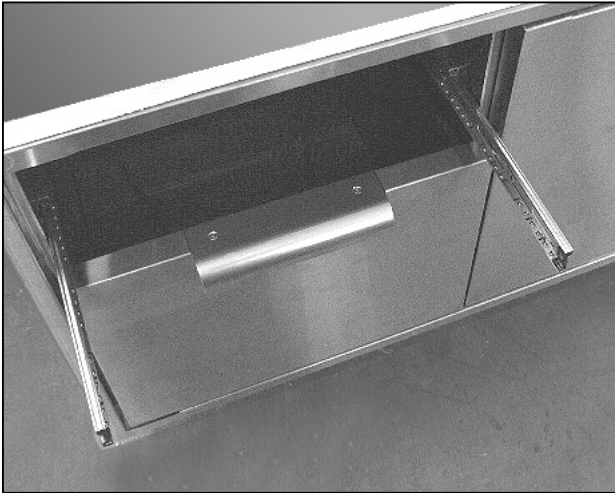

Fig. 10
1. Re-install the drawers by extending their guides as shown in fig. 10.